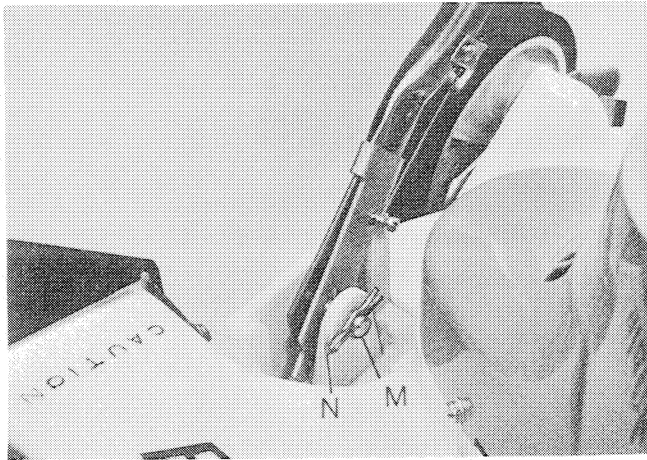
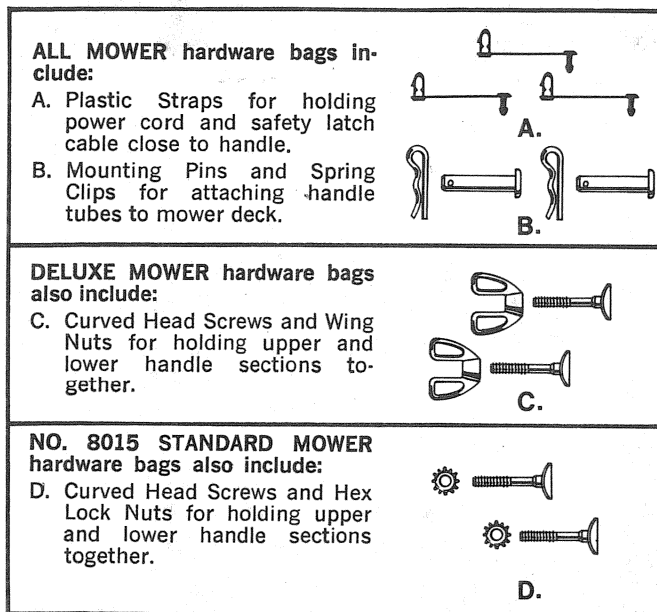
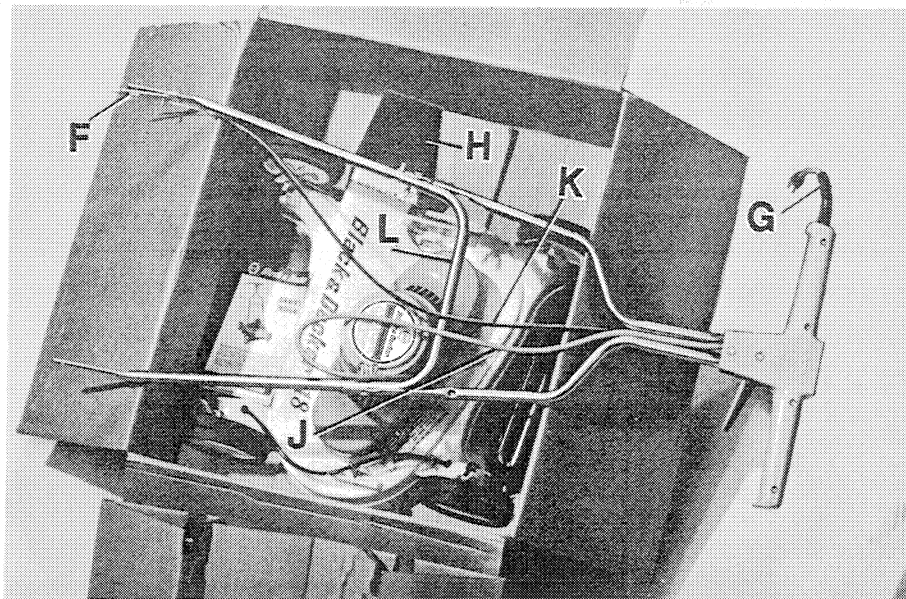
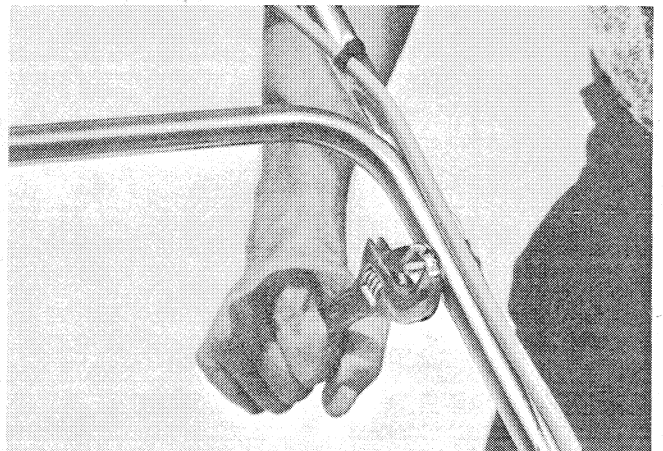

FIGURE 5
FIGURE 1
FIGURE 2
FIGURE 4
- (3) Attach handle to mower deck with 2 mounting pins "M" (Figure 5) and 2 spring clips "N". Pins and clips are item "B" in Figure 1.
- (1) Open carton and remove cardboard fillers and 2 plastic hardware bags (contents shown in Figure 1).
- (2) Without removing mower from carton, fasten upper and lower handle sections together as shown in Figures 2 & 3, with curved head bolts and wing nuts (Item "C", Figure 1). No. 8015 MOWER ONLY—Use curved head bolts & hex nuts (Item "D", Figure 1) for handle assembly (Figure 4). This handle is not designed to fold for storage.
Handle must be assembled so that the sliding safety-latch "F" (Figure 2), and the power cord plug "G" are on the same side as the grass discharge opening "H". Place power cord "J" and safety latch cable "K" OVER handle cross-member "L".